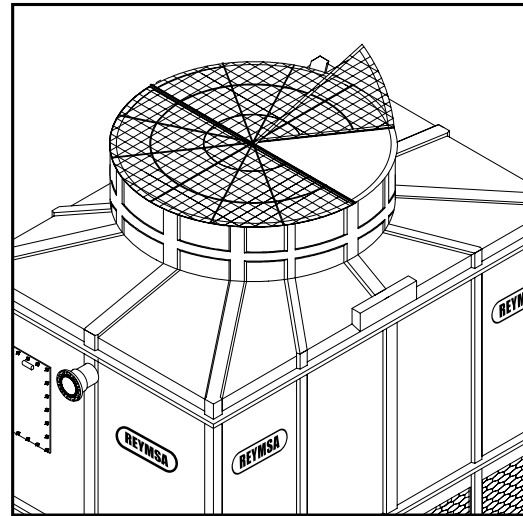

Figure A-123: Fan guard access door for RTGM and RTGMTC models.
- Y. Fan Guard section has an access door to allow perform maintenance inside the fan Deck. (see Figure A-123).